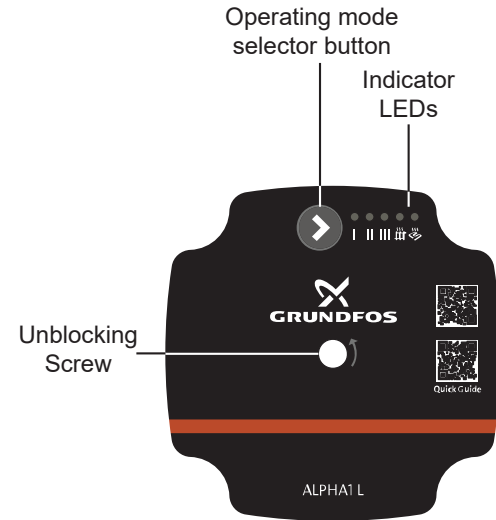

Figure A2-2: Pump control panel
3. The indicator LEDs on the pump control panel (see Figure A2-2) will illuminate, indicating that the power supply has been switched on and the pump is running.
The pump control panel (see Figure A2-2) features a series of LEDs (refer to Section A2.1.6) which indicate the current operating conditions of the pump. For more detailed information on the pump control modes, please refer to Section A2.1.7.
The pump is fitted with a panel of LEDs located next to the selector button (see Figure A2-2) which indicate either:
To set the pump control mode, press the button on the control panel (see Figure A2-2). Every time you press the button, the pump setting is changed. The LEDs will indicate the chosen control mode (see Figure A2-3). A cycle is five button presses.
If the pump has detected one or more faults, the first LED on the pump control panel (see Figure A2-2) switches from green to red, indicating an alarm. When an alarm is active, the LEDs indicate the fault type as defined in Figure A2-4.
If the pump is blocked it is necessary to unblock the shaft. The pump unblocking device is accessible from the front of the pump without having to demount the control box. Refer to Figures A2-2 and A2-4.